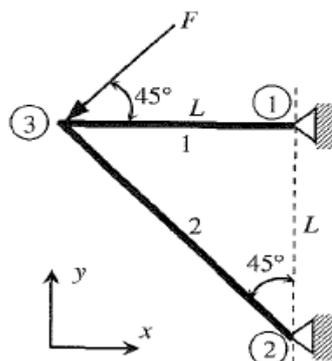

Fig. 2
5. The plane truss shown in the **Fig. 2** has two elements and three nodes. What are nodal displacements and the element forces? Assume $E = 10^5$ MPa, $A = 10^{-4}$ m², $L = 1$ m, $F = 14,142$ N. 14M